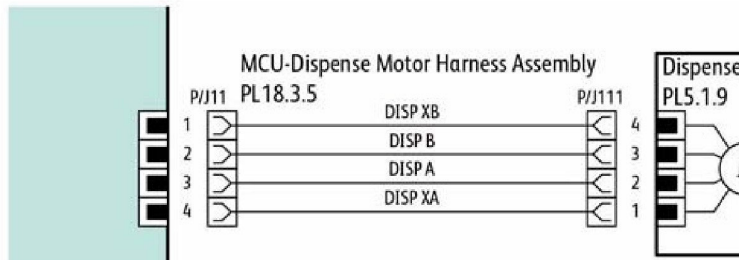

Figure 1 Motor wiring diagram
1. Refer to Figure 1 as an example. Disconnect PJ111. Check the +24VDC supply and the phase pulses to GND when the component control code for the motor is entered. If the supply and pulses are present, install a new motor.